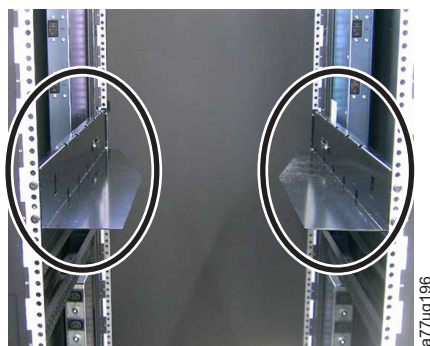

Figure 184. Front view of a rack, showing the rails installed
2. With assistance, slide the replacement library enclosure onto the metal rails that are already in position in the rack (see Figure 184).